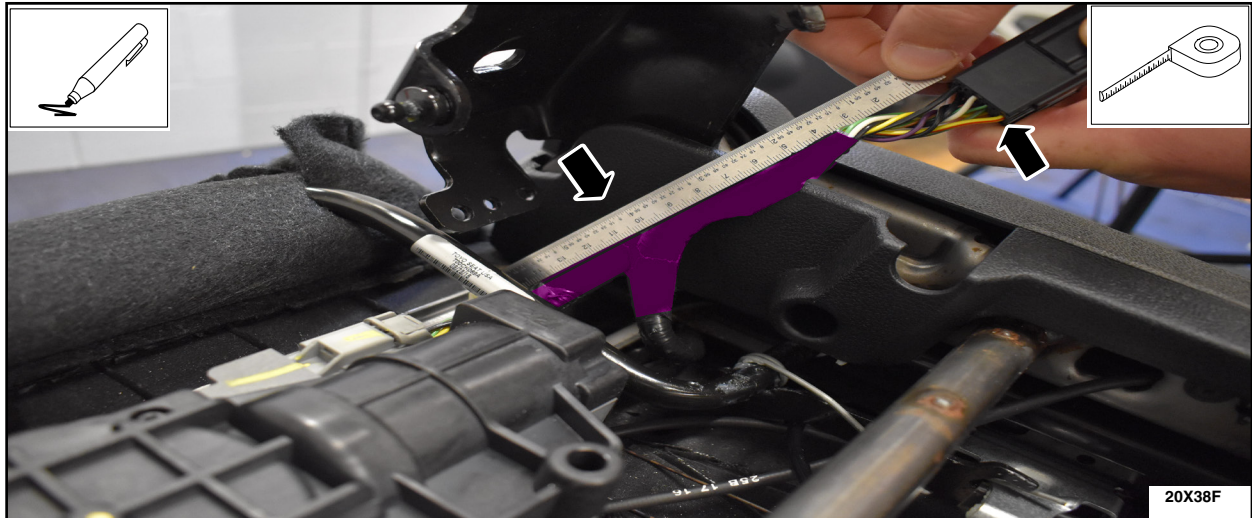

FIGURE 8
10. Measure the distance from the back of the connector to the branch. Add 25mm (1 in) from that point and mark on the main harness and the take out (branch off wire). See Figure 8.